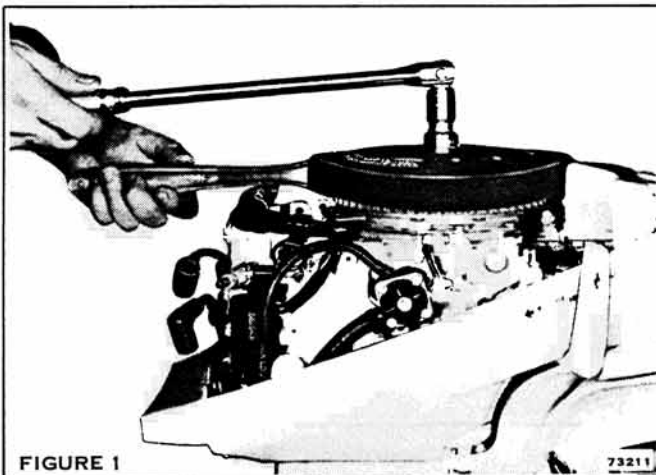
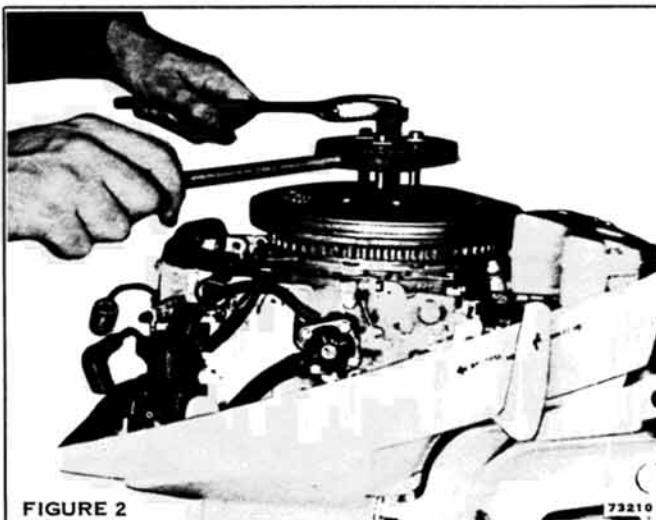

FIGURE 1
FIGURE 2
2. Remove flywheel nut, Figure 1, and flywheel using Universal Puller P/N 378103, Figure 2.